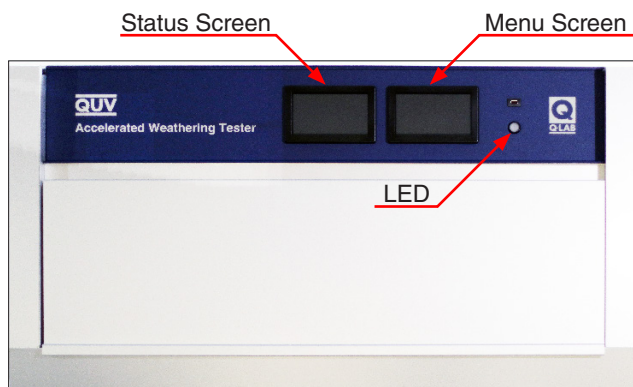

Figure 9.1a: Touch-screens and LED locations.
- Two touch-screen monitors mounted on the QUV control panel are used to control tester operation and the display of test status (Figure 9.1a).